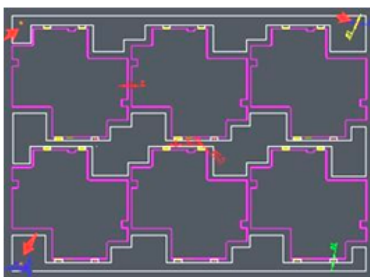

Figure 4
1. Design three or four reference points, also known as mark points, on a single face, and arrange them asymmetrically in an **L** or **quadrangle** shape, as shown in Figure 4.